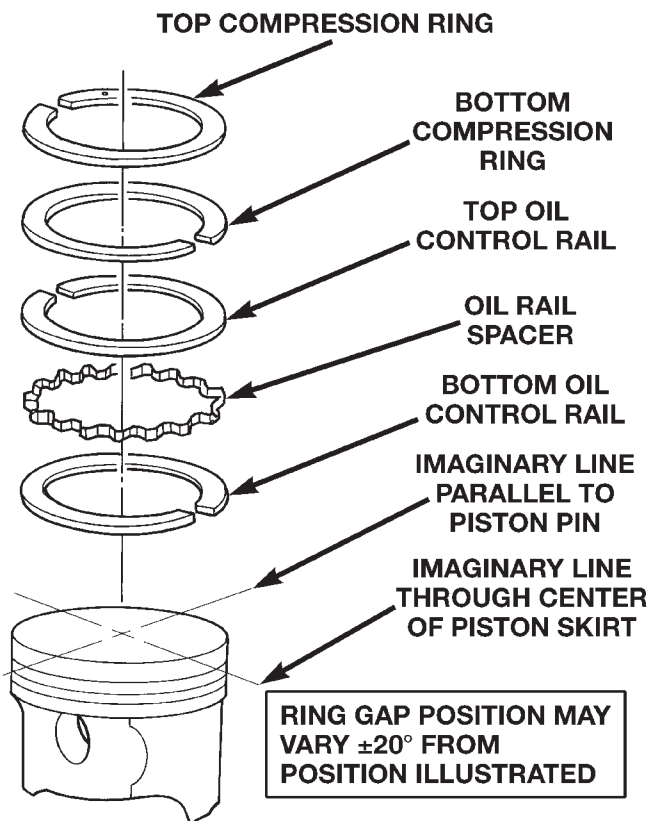

Fig. 14 Ring Gap Position
(11) Position the gaps on the piston (Fig. 14):